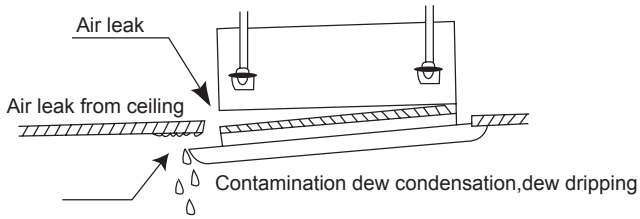

Fig.29
(1) Improper screwing of the screws may cause the troubles shown in Fig.29.